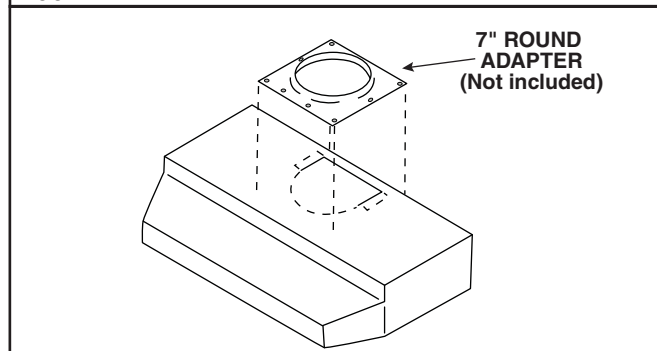
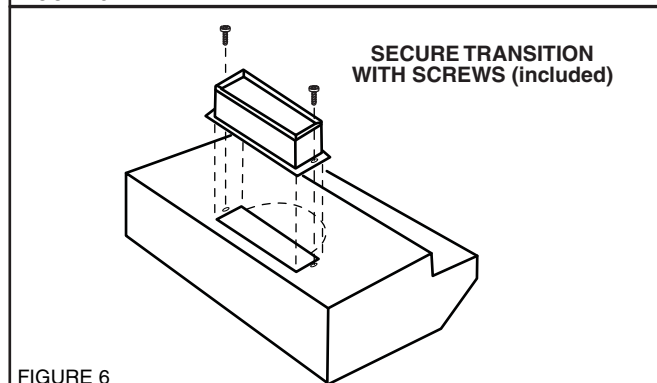
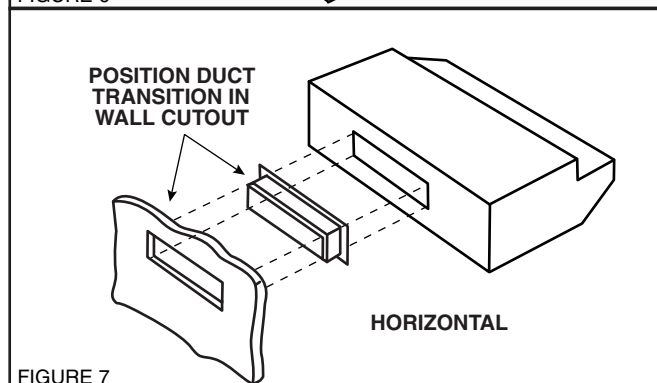

FIGURE 5
FIGURE 6
FIGURE 7
1. Refer to **Figure 6** for a vertical discharge installation. Secure the 3/4" x 10" transition (if used) to top of hood. Refer to **Figure 7** for a horizontal discharge installation. If using the supplied 3/4" x 10" duct transition, remove the damper from the transition to prevent possible venting interference. Position transition into wall cutout (the transition does not fasten to the hood). Refer to **Figure 5** for 7" round discharge installation. Secure 7" round adaptor to top of hood using screws provided.
3. Align hood's keyhole mounting slots over the four (4) partially installed screws.